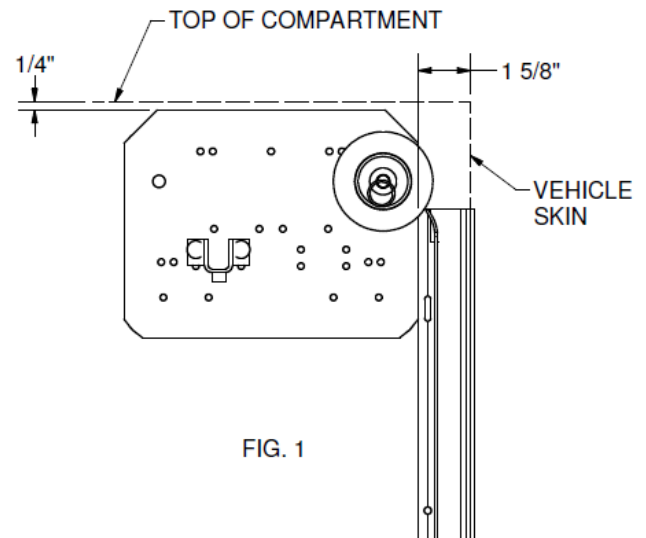

FIG. 1
- Looking into the compartment, place the pennant plate right hand pennant plate label in the top right of the compartment as shown in Fig. 1. Make sure it is flush with the top of the compartment and 1-5/8" from the vehicle skin.